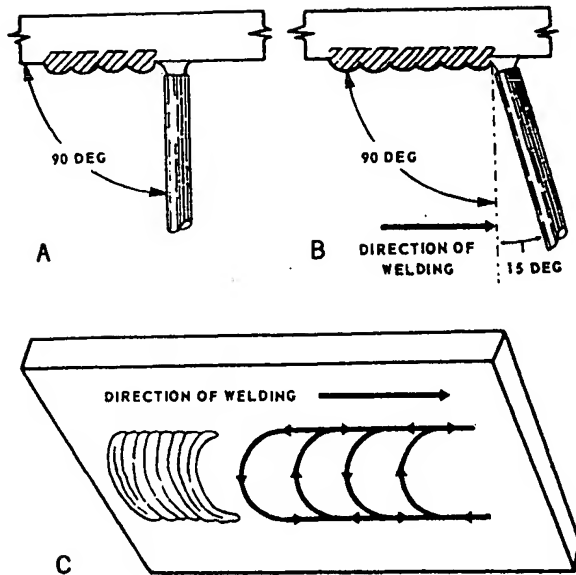

Figure 7-39.—Position of electrode and weave motion in the overhead position.
**BEAD WELDS.**— For bead welds, the work angle of the electrode is 90 degrees to the base metal (fig. 7-39, view A). The travel angle should be 10 to 15 degrees in the direction of welding (fig. 7-39, view B).
Weave beads can be made by using the motion shown in figure 7-39, view C. A rather rapid motion is necessary at the end of each semicircular weave to control the molten metal deposit. Avoid excessive weaving because this can cause overheating of the weld deposit and the formation of a large, uncontrollable pool.